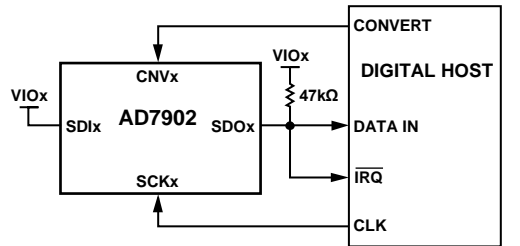
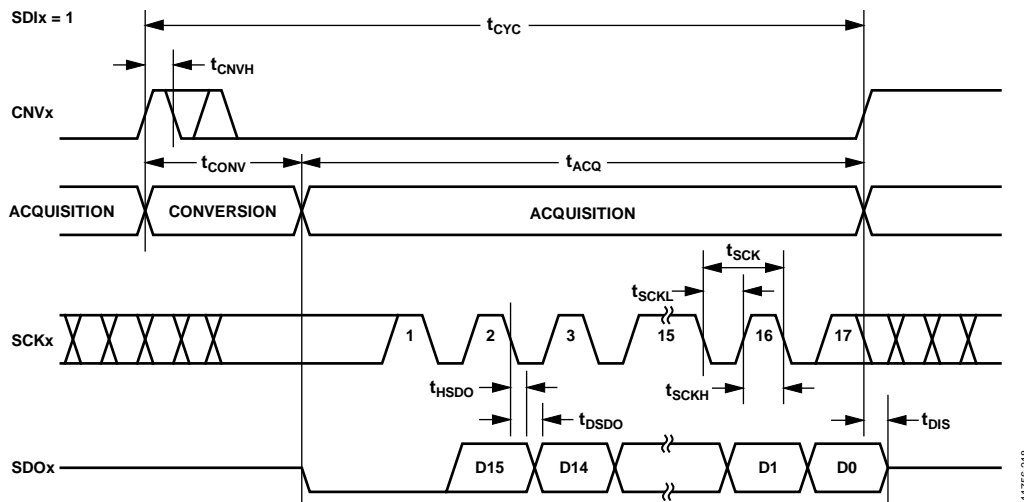
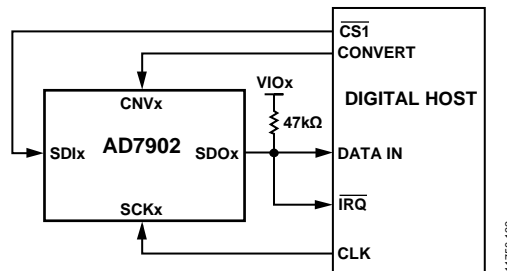
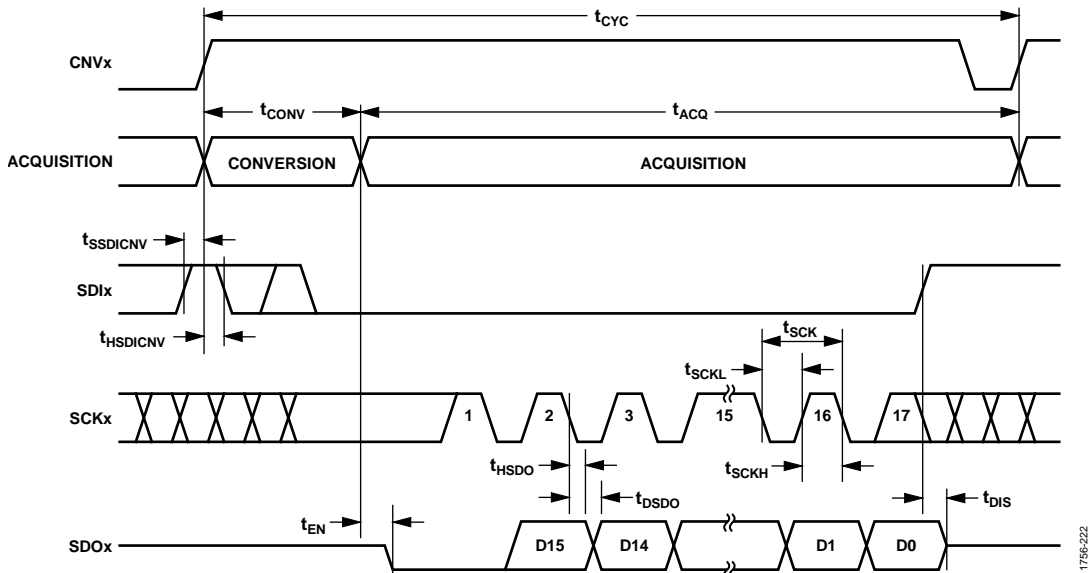

Figure 40.  $\overline{CS}$  Mode, 3-Wire Interface with a Busy Indicator Connection Diagram ( $SDIx$  High)
Figure 41.  $\overline{CS}$  Mode, 3-Wire Interface with a Busy Indicator Serial Interface Timing ( $SDIx$  High)
Figure 44.  $\overline{CS}$  Mode, 4-Wire Interface with a Busy Indicator Connection Diagram
Figure 45.  $\overline{CS}$  Mode, 4-Wire Interface with a Busy Indicator Serial Interface Timing
- In  $\overline{CS}$  mode when CNVx or SDIx is low when the ADC conversion ends (see Figure 41 and Figure 45).
The connection diagram is shown in Figure 40, and the corresponding timing is shown in Figure 41.
The connection diagram is shown in Figure 44, and the corresponding timing is given in Figure 45.